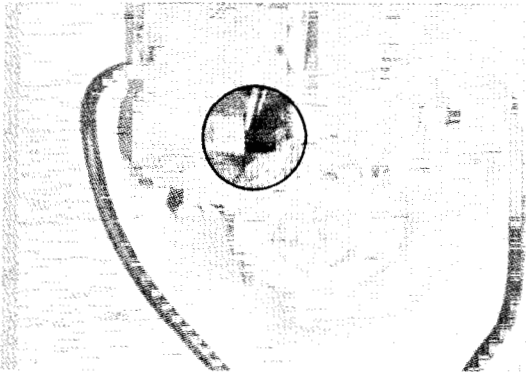

Figure 3.3
3.3 CHECK MOTOR BRUSHES (fig. 3.3)